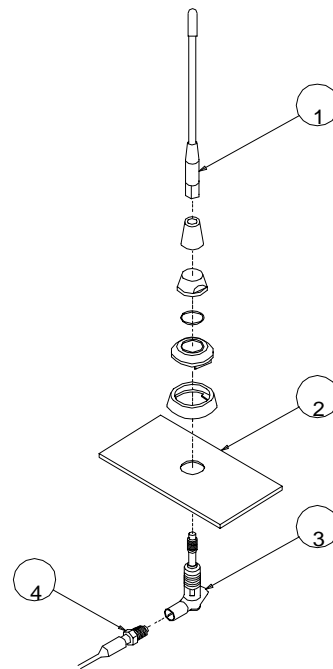

Figure 2.9: Standard External Antenna
3. Assemble the antenna according to Figure 2.9: Standard External Antenna.